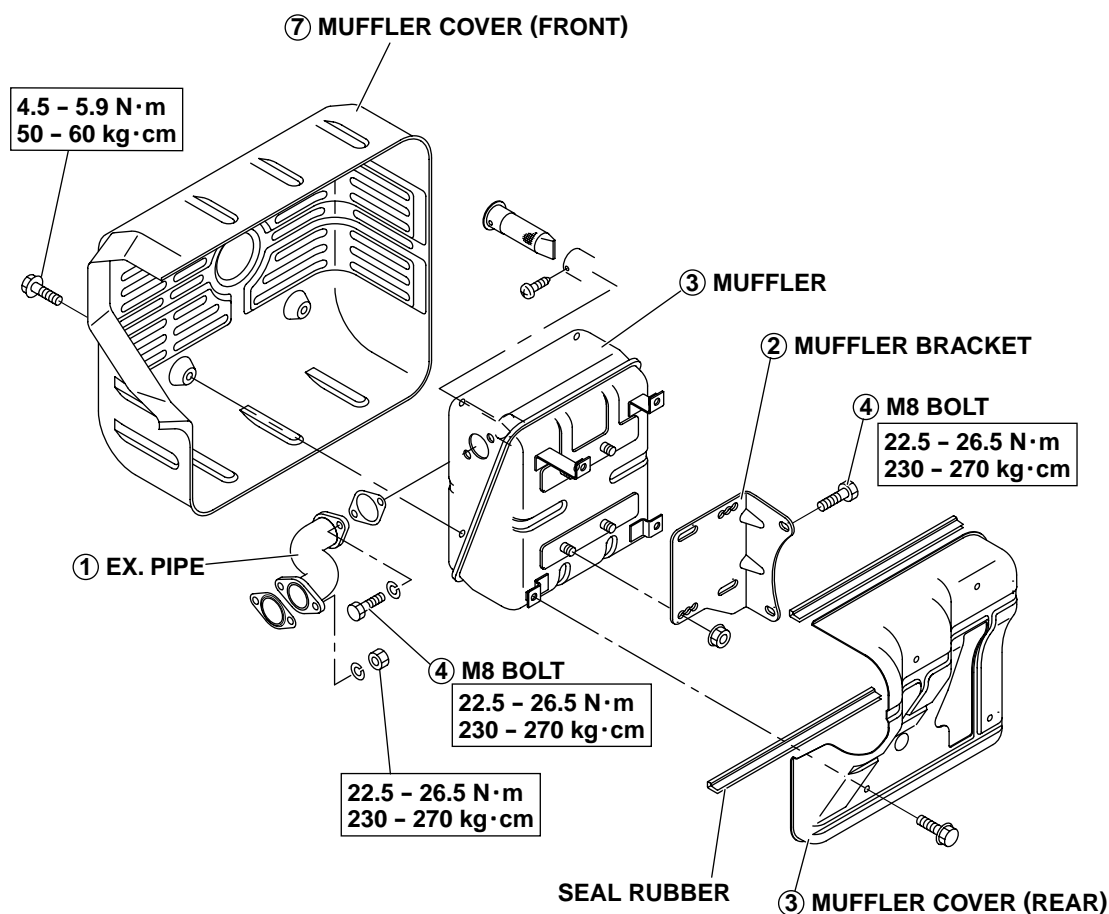

Fig. 10-30
(See Fig.10-30.)
- (3) Assemble the muffler cover (rear) to the muffler. (See Fig.10-30.)